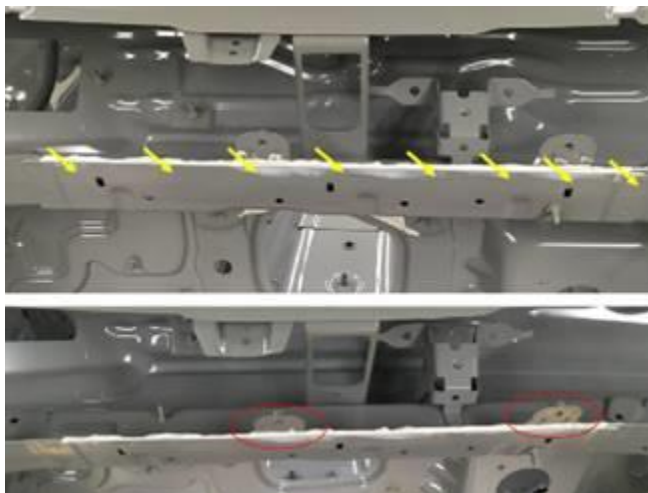

Figure 8. Sealant properly applied.
9. Ensure that there are no bubbles in the applied sealant. Work the sealant into the seam (yellow arrows) if necessary to achieve a water-tight seal (Figure 8, area circled red).